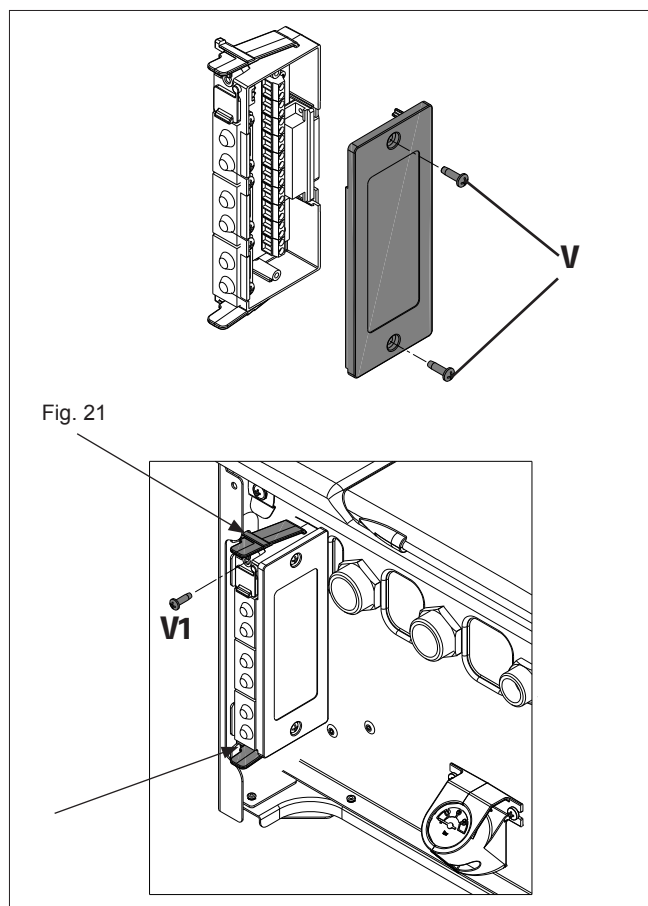

Fig. 21
- Press and hold both tabs and insert the D-sub interface into the D-sub socket on the appliance underside (fig. 21).
- D-sub interface incorrectly located (alarm code E077); ensure that the D-sub interface is located within the guide slot (fig. 21).